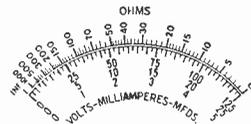

Fig. 1.
*This is the second and concluding section of an article by Mr. Rohrich. The first section appeared in the August-September issue of National Radio News. The drawings, Figures 1 and 3, above, are reprinted here for your convenience.*
In order to illustrate the work with an example let us say that your arrangement consists of a meter marked in volts or milliamperes from zero to 5, as shown by the bottom scale of Fig. 1, and that you have a known 1000 ohm resistor.